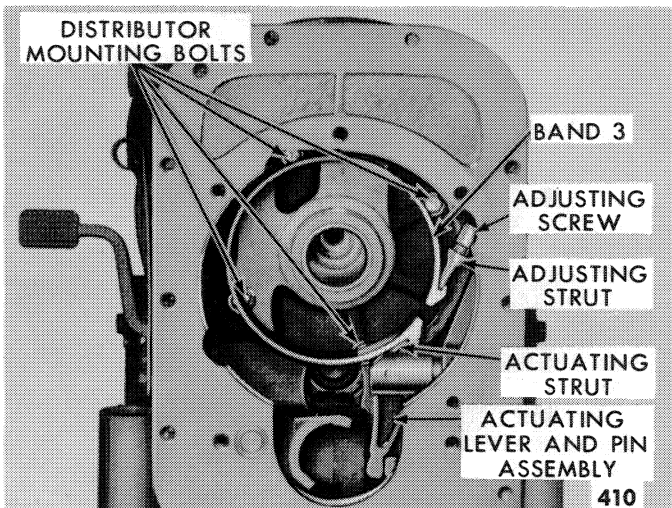
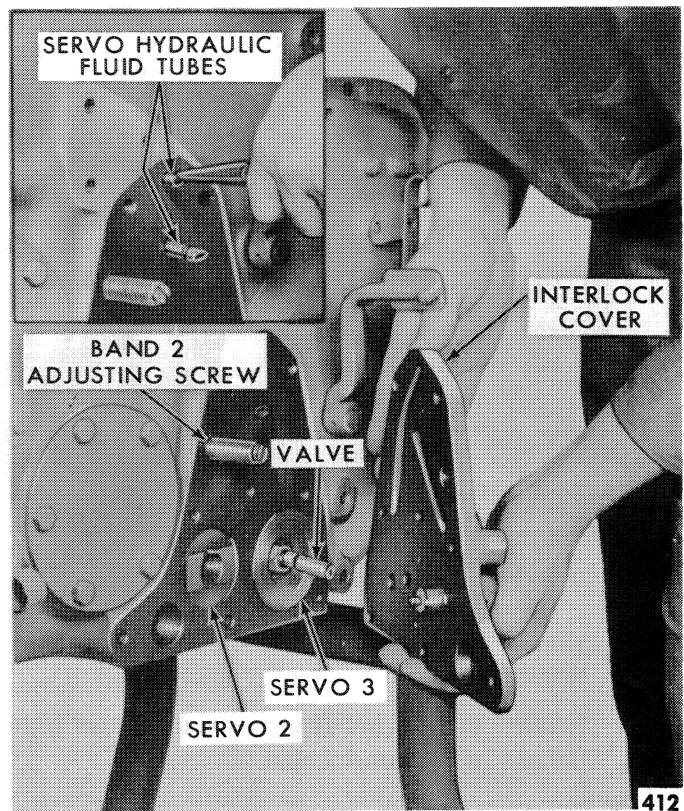

Figure 89—Band No. 3 in Position
Figure 91—Removing the Servo Interlock Cover
7. Manually compress No. 3 band while holding the adjusting strut and actuating strut, shown in Figure 89. Remove the band and two struts from the case.
9. Remove No. 2 band adjusting screw lock nut and washer and loosen the adjusting screw as much as possible. Remove the eight interlock cover attaching bolts and remove the interlock cover and gasket, shown in Figure 91.
NOTE: No. 2 band must be completely free and the cover removed evenly to prevent damaging the valve attached to the servo 3 piston, shown in Figure 91.
10. Loosen the four distributor attaching bolts, shown in Figure 89, and remove the two servo hydraulic fluid tubes from the distributor (but not from the transmission case) by twisting and pulling at the same time, as shown in the insert, Figure 91.